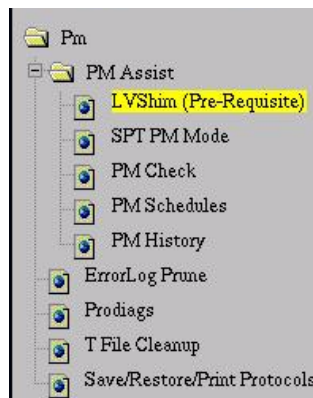

Figure 16b
1. Click on "LVShim (Pre-Requisite)" in the expanded PM Assist folder shown in Figure 16b. The right side of the screen will provide more details about LVShim and a link to start the LVShim PM tool.